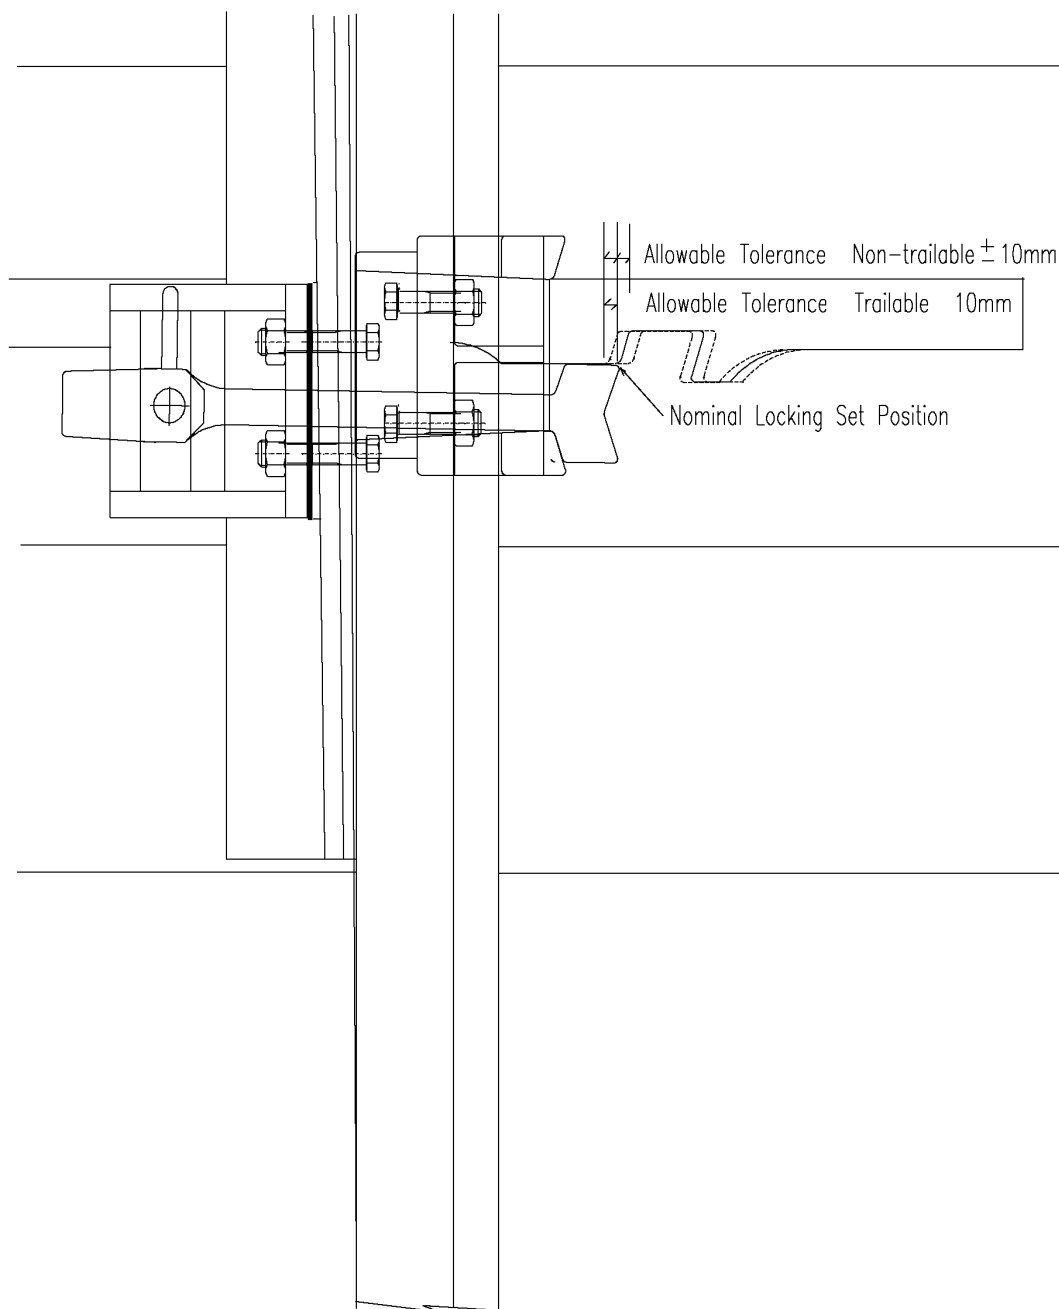

Figure 2.2 - Front Drive locking set dimension
8. Slacken off the bolts and nuts at the serrations and set the back operating bar to give the “locking set dimension” shown for the backdrive in Figure 2.2